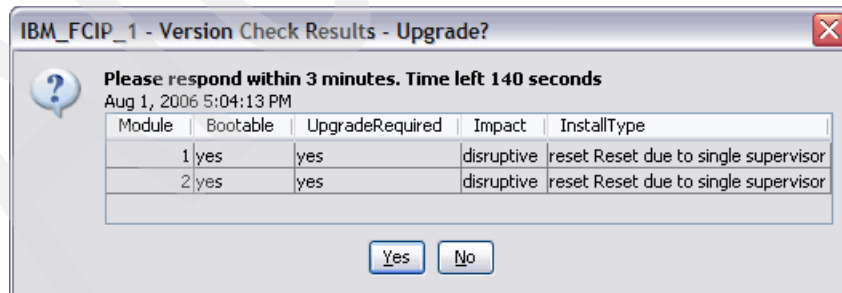

Figure 11-25 FM software update verify window
12. The window shown in Figure 11-25 opens, waiting for your input. Because we are upgrading a single supervisor switch (MDS 9216i) it states that the update will be disruptive. If you are updating a Cisco MDS 95xx switch with dual supervisors, it will show that the update is concurrent. Click **Yes** to allow the update to continue.